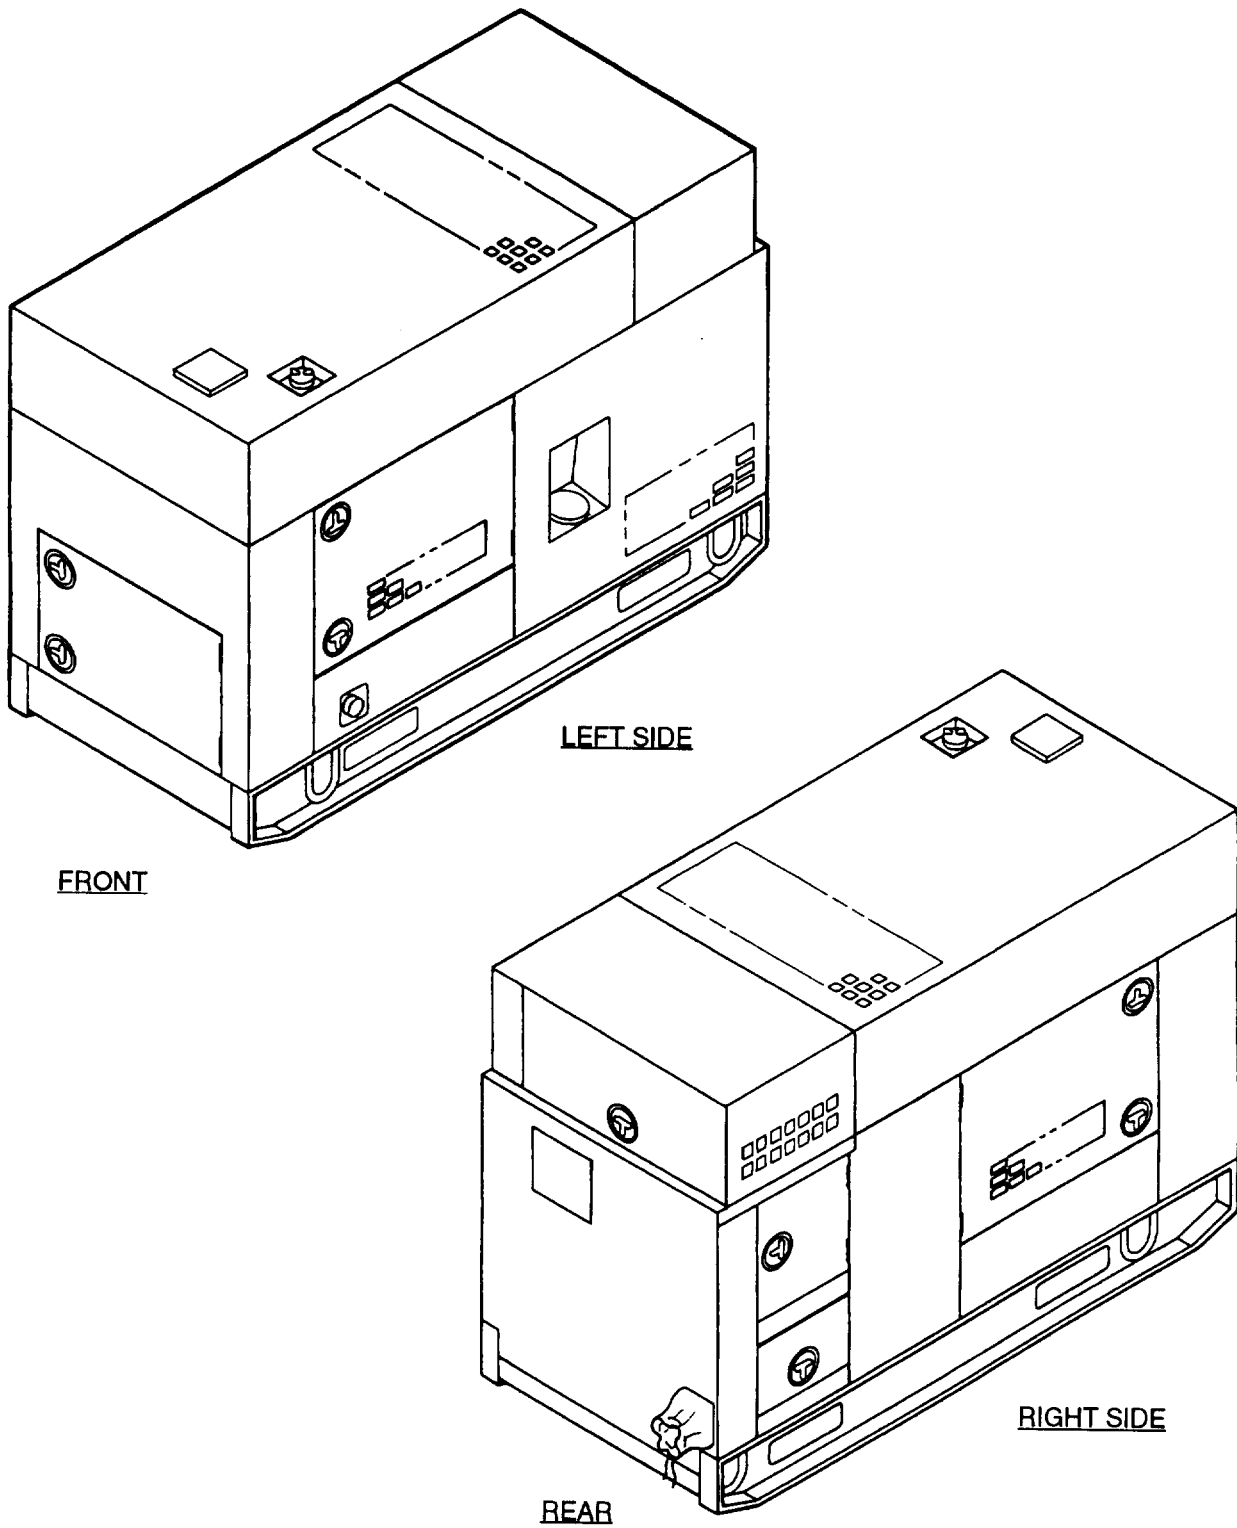

FIGURE 1-1. Generator Set, 15 kw, Tactical Quiet
This manual contains Unit, Direct Support and General Support maintenance instructions for the Tactical Quiet (TQ), 15 kW 50/60 and 400 Hz Generator Sets (FIGURE 1-1), herein referred to as generator sets. Included are descriptions of major components and their functions in relation to other components.